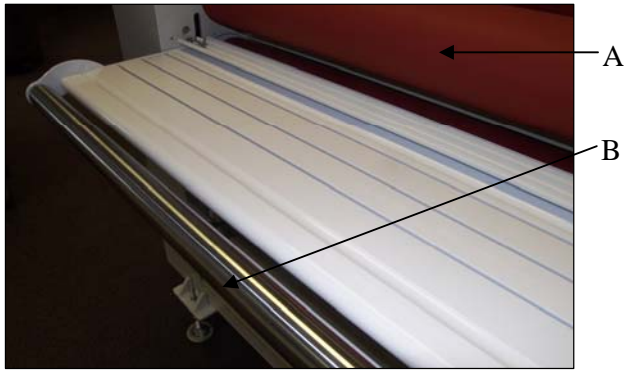

Figure 10
**Heated Main Rollers:** (Fig. 10 – Item A)
**Table Idler:** (Fig. 10 – Item B)